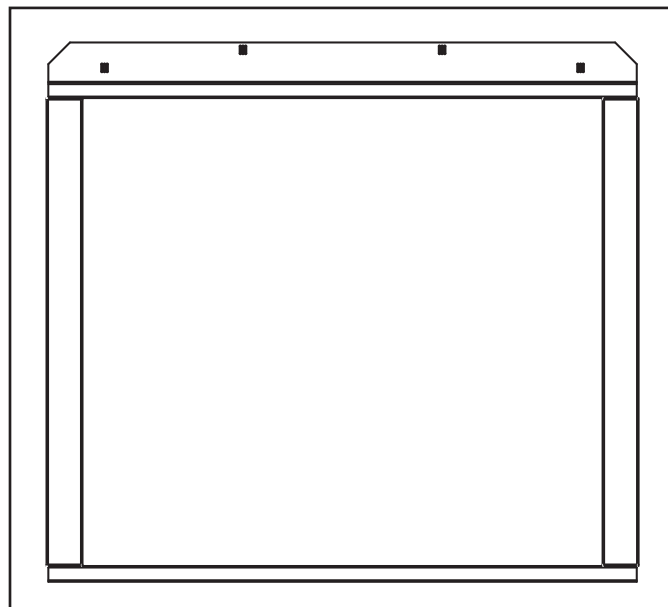

Figure 13.3 Appliance Surround
The CMOD door will overlap the appliance. See Figure 13.3 and 13.4.
- Seal joints between the finished wall and appliance top and sides using a 300°F minimum sealant. Refer to Figure 13.3.
If the appliance is installed at a minimum of 1 inch above the floor, the CMOD door can be used. The CMOD door **OVERLAPS** the sides, top and bottom of the appliance surround. See Figure 13.3 and 13.4 for dimensions.